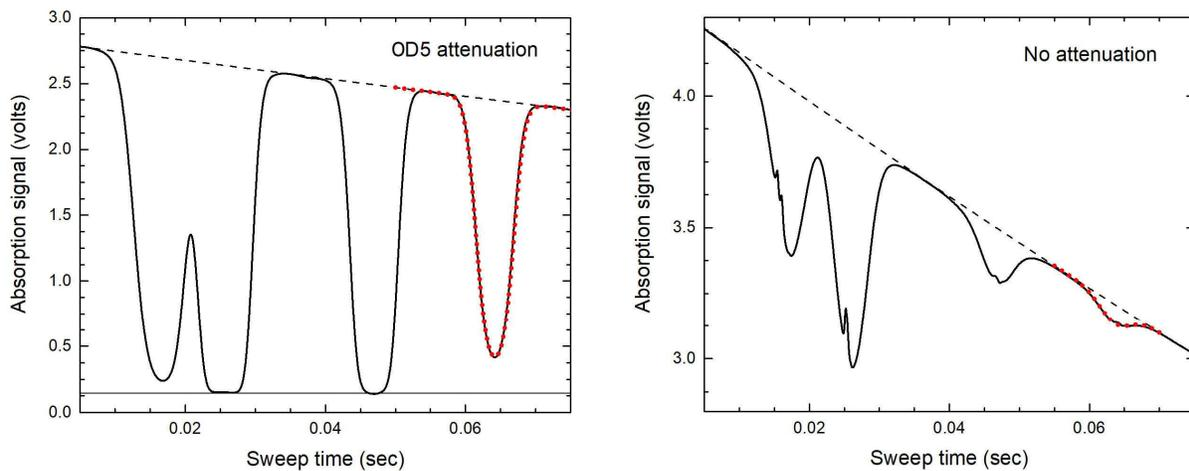

Figure 10. Example spectra showing the Rb absorption dips at 60C, with OD5 laser attenuation (left) and no attenuation (right).
OD3 = OD2 + OD1, so use combinations of attenuators as needed). For each value, you will need to readjust the PD gain and oscilloscope gain to get a good trace. As before, it is best to keep the scope at about 500mV/division and turn the PD gain up as needed, if this is possible. Figure 10 shows some example data when things are working well. Add all six of your plots to your e-notebook.
**Exercise 10.** Model your data to produce measurements of  $\tau_{0,eff}$  as a function of the filter OD number (recall that ODn means an attenuation factor of  $10^{-n}$ .) We call this  $\tau_{0,eff}$  because this number is not just proportional to the Rb vapor density. For the no-attenuation case in Figure 10, note that the background is now utterly negligible, because the laser light hitting the PD is very bright. But the background signal (from room lights and/or voltage offsets in the PD) is not negligible in the OD5 case. Note the suppressed zero in OD0 graph, indicating that the absorption dips are much smaller than at OD5. The no-attenuation absorption profiles also show some fine structure that comes from the saturated-absorption phenomenon, which you will examine in detail later in this lab. Your data points will probably look something like those in Figure 11.